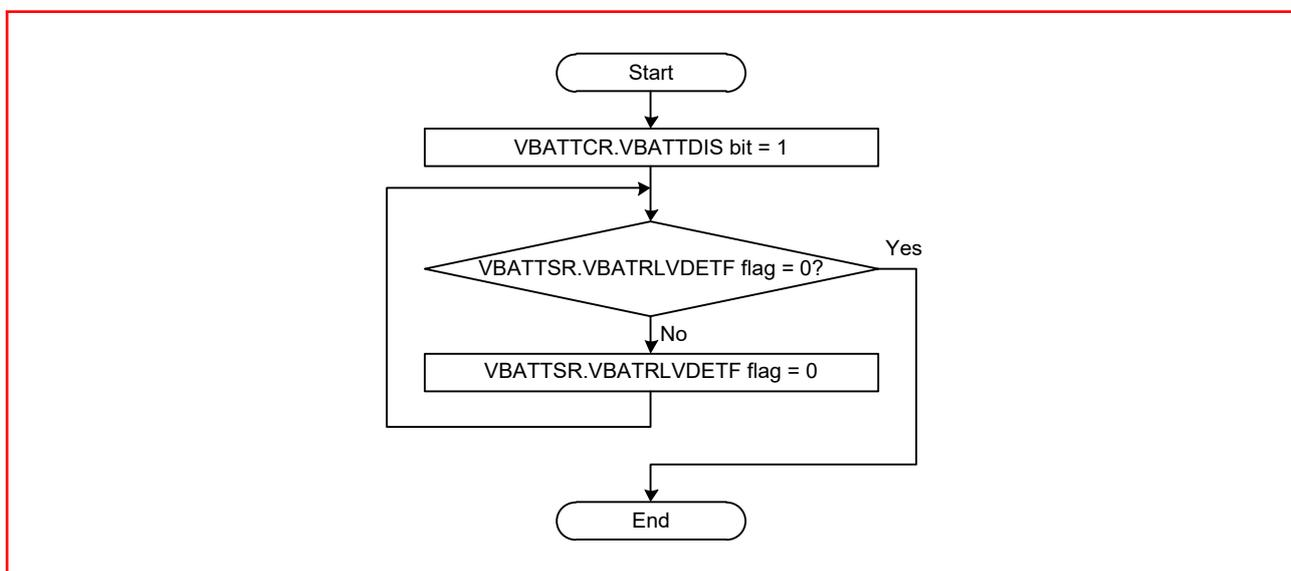

Figure 12.5 Example of the Procedure for Setting the VBATTTCR Register when Battery Backup Function is Not to be Used
2. When the battery backup function is not **to be** used, set the VBATTTCR.VBATTDIS bit to 1 (battery backup function disabled). **After that, wait until clearing of the VBATTISR.VBATRLVDETF flag becomes possible and proceed to the next step. Figure 12.5 shows an example of the procedure for setting the VBATTTCR register.**